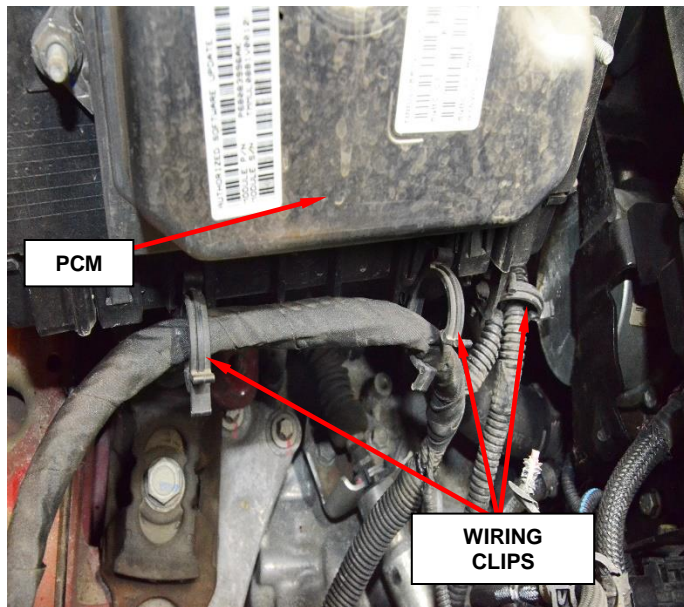

Figure 7 – Wiring Harness Clip
23. Partially install the battery tray, then reattach the wiring harness to the clips on the back of the tray (Figure 7).